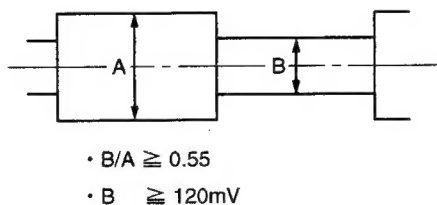

Fig. 2-7-12 Envelope output and output difference
2. In recording/playback the tape with a E-180, the video envelope should meet the specification as shown in Fig. 2-7-12.